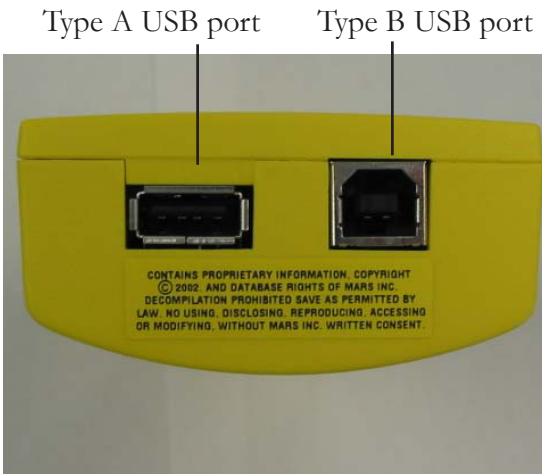

fig.1 (CPM)
1. Locate the two USB ports located on the top of the Portable Programming Module (See fig. 1 below).